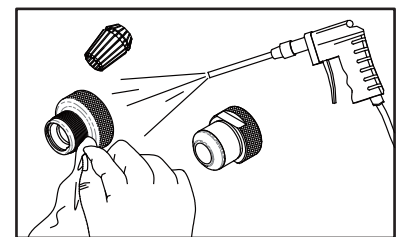
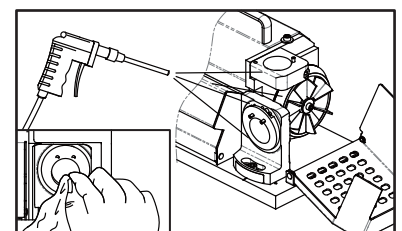

Fig. 12-4
Fig. 12-5
- ① Unplug the power cord and make sure the power is off.
- ② Disassemble the chuck set after use.
- ③ Use the air press gun to clean the scraps and dust out of all grinding shelves and all the accessories. (Fig. 12-4) (Fig. 12-5)
- ④ Use clean cloth to clean each contact port and all the accessories, then put them back in order. (Fig. 12-4) (Fig. 12-5)